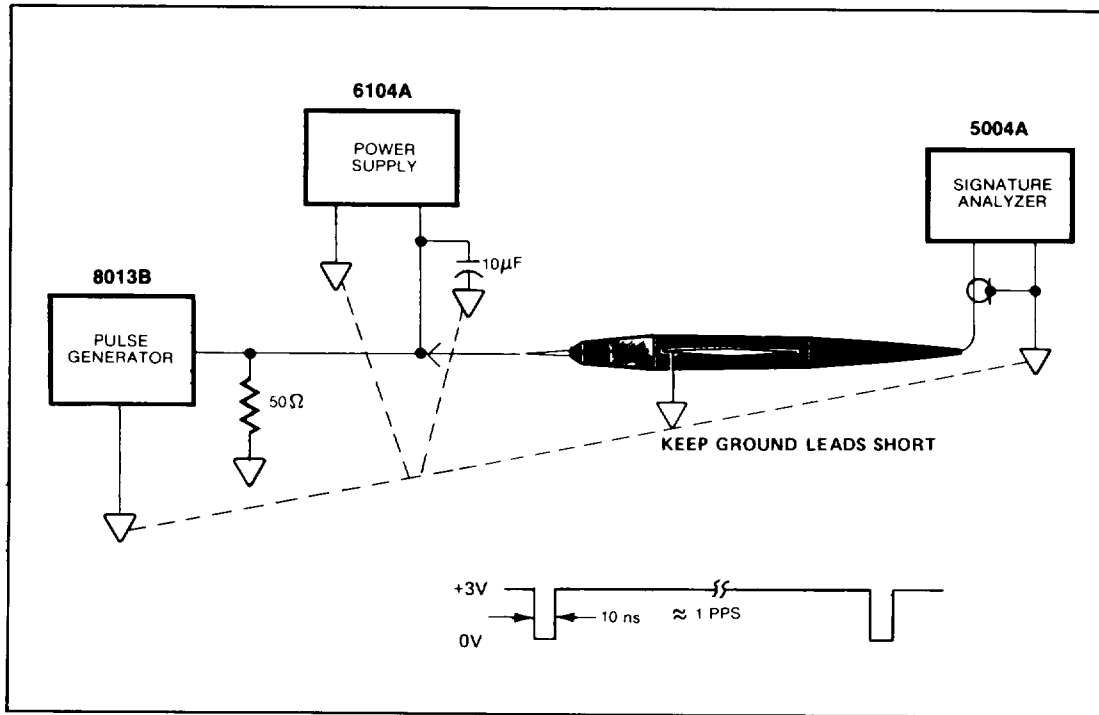

Figure 4-3. Negative Pulse Performance Test Setup
- 4-9. With test equipment connected as in Figure 4-3, proceed as follows:
- Adjust pulse generator to give waveform at probe tip as shown in Figure 4-3, with a repetition rate of one-pulse-per-second. Probe indicator should flash off approximately once per second.